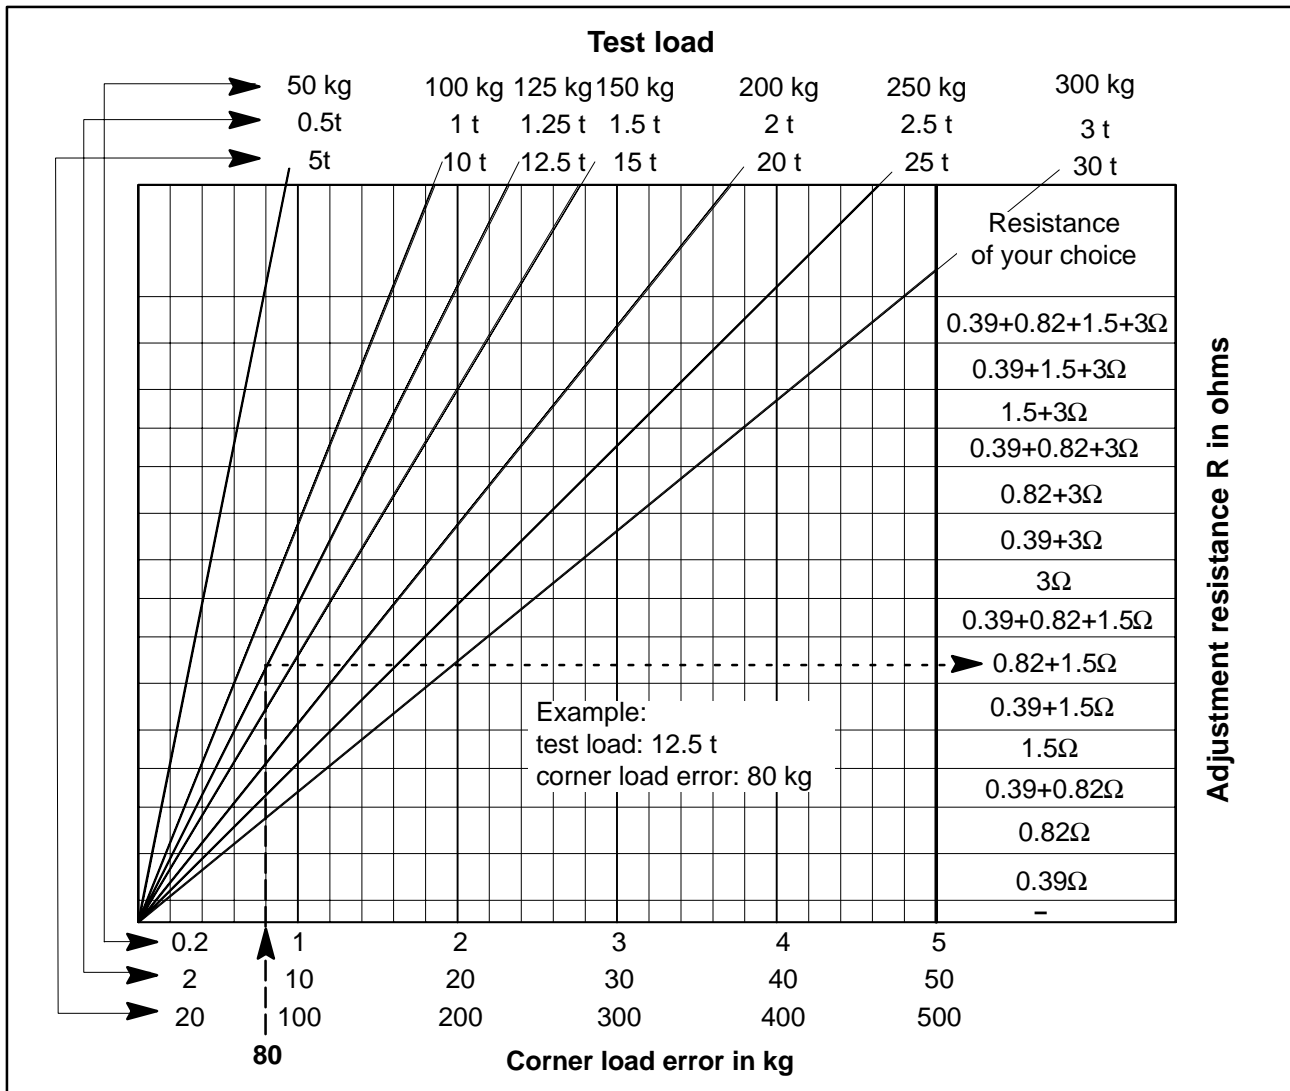

Fig. 6.2: Corner load balancing for 350 Ω load cells
- The chart (Fig. 6.2) is graduated in three test load ranges. Select the test loads used (50 kg...30 t) in the relevant line. Starting from the calculated corner load error difference on the X-axis, look for the intersection with the test load and then, on the Y-axis, read off the resistance and the most suitable combination. The resistance values here apply for 350 Ω load cells (see the table in the lid of the VKK...).
In our example, load cell 3 has a corner load error of 80 kg, which produces an adjustment resistance of $1.5+0.82 \Omega$ (shown in Fig. 6.2).